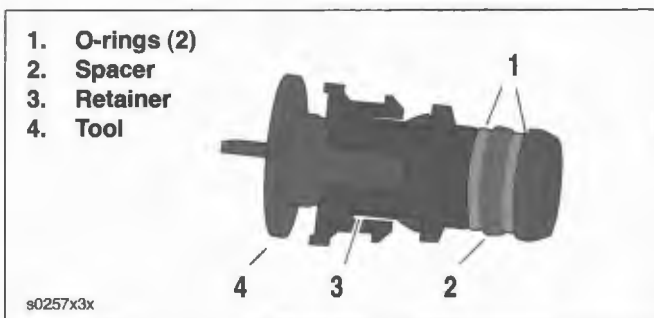

Figure 3-167. O-rings and Spacer
- See Figure 3-167. O-rings (1) and spacer (2) are not sold separately. If either o-rings or spacer are damaged, oil line retainer assembly must be replaced.
1. Insert OIL LINE O-RING TOOL (4) (Part No. HD-44455) inside retainer (3).
3. Insert tool (4) through **new** retainer (3).